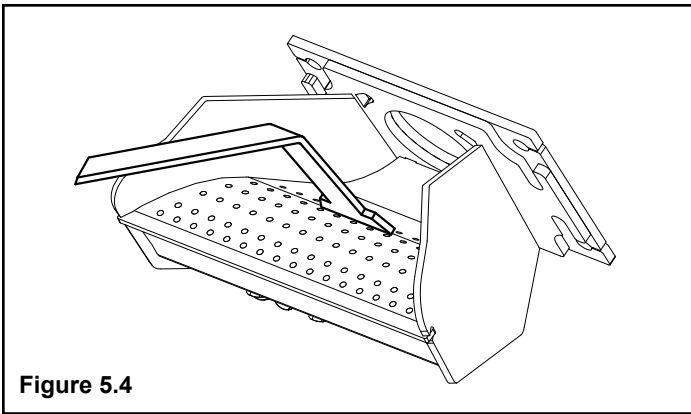

Figure 5.4
- Scrape the top holed surface and sides of the burn pot down to auger tube Figure 5.4. It is not necessary to completely remove all material from the burn pot. The excess will be pushed out during the next use.